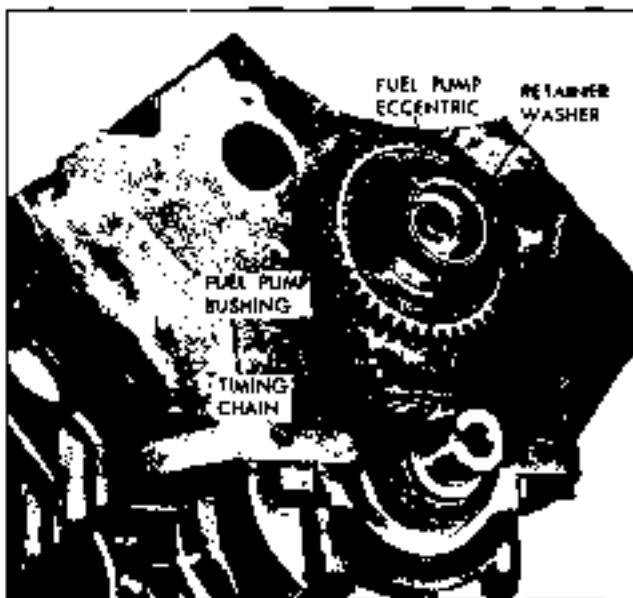

Fig. 6-96 Front of Engine with Timing Chain Cover Removed
14. If new fuel pump eccentric and bushing are to be installed, remove camshaft sprocket retainer bolt and retaining washer and remove the eccentric and bushing. Place fuel pump bushing over eccentric with rolled flange toward camshaft sprocket (Fig. 6-96).